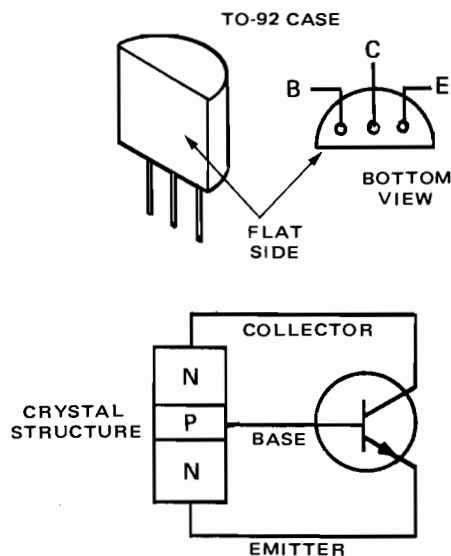

Fig. 13-3-1
1. Remove 2N3397 transistor from storage cabinet and place it on circuit construction board. The 2N3397 is an NPN silicon transistor housed in a TO-92 case. See base diagram, lead assignments, element names, and crystal structure in Fig. 13-3-1.